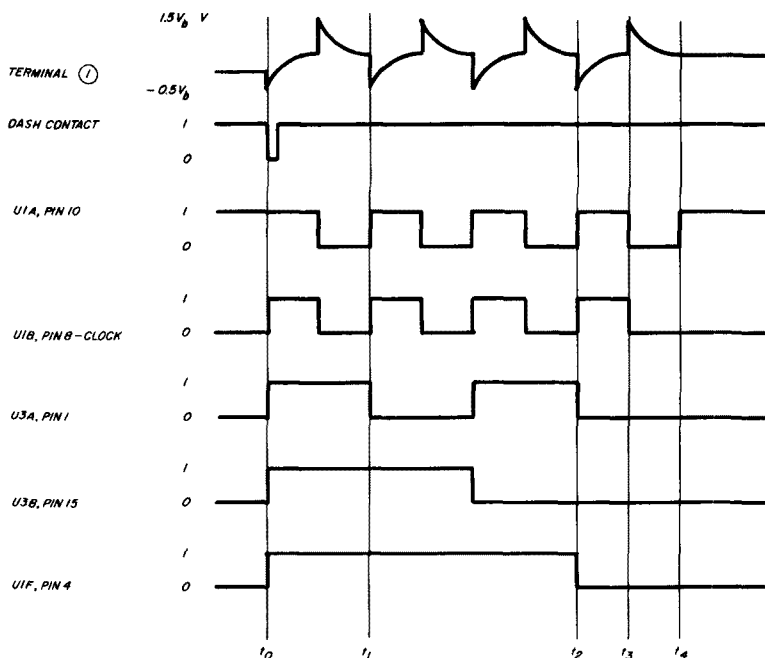
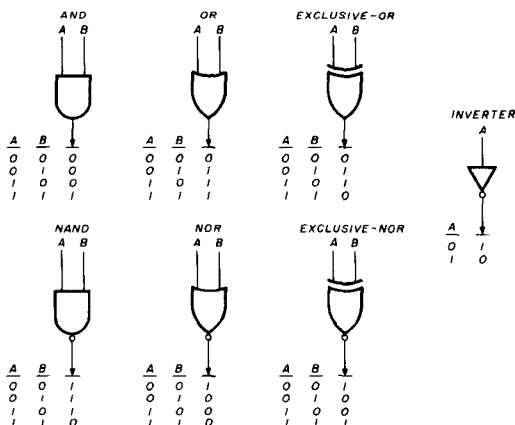
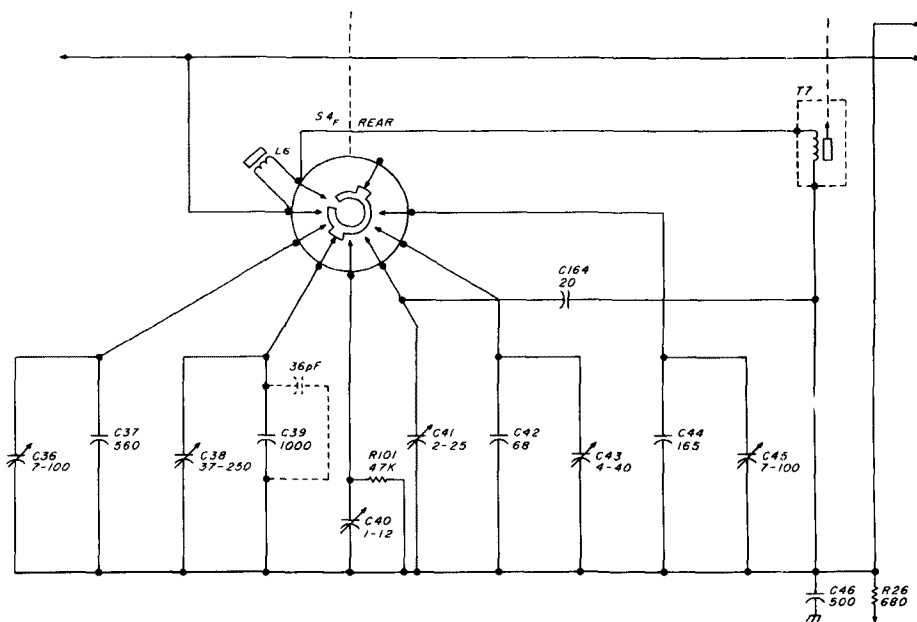

fig. 2. Timing diagram showing the levels within the keyer during the generation of a dash.
fig. 1. Schematic symbols and truth tables for six basic gates, AND, NAND, OR, NOR, Ex-OR, and Ex-NOR, and the inverter.
fig. 3. Changes made to the driver network for low end coverage of 160 meters.
enables the RC oscillator. (Time t_0 on the timing diagram, **fig. 2**).
This is the gate, the fundamental decision maker. Each gate may have any number of inputs, but only one output. The six basic gates are shown in **fig. 1** along with an inverter. The latter has only one input and is used mainly for level inversion.
Compare the truth tables of the AND and NAND, OR and NOR, and the Exclusive gates of **fig. 1**. Each pair, of the three types, will have opposite output states. All six types are needed for design flexibility, but the NAND, NOR and Exclusive-NOR may be confusing.
The uses of NAND and NOR gates may not be apparent, so let's examine some simple gate arrays. The function of the array in **fig. 2** is to provide a high output when the inputs from either A and B or C and D are high. For ease of illustration, C and D are kept low. Intermediate AND output states E and F may not be used but are good for following an array function.
The array in **fig. 3** performs the same function as
fig. 2. Conventional AND/OR gates can be combined to produce the desired outputs. In this example, a 1 output will be present when A and B, or C and D are both 1s.
the one in **fig. 2**, even though all gates are NANDs. The equivalent OR function has bubble inputs, matching the active low NAND outputs. If this is confusing, go back to **fig. 1** and check the state conditions of NAND input versus output. Intermediate states E and F are useful here.
fig. 3. In this example, the AND/OR gates of fig. 2 have been replaced by NANDs and NORs. Even with the change, a 1 will be present at the output for the same input conditions.
fig. 1. The schematic diagram in (A) shows the connections between the switches and audio transformer. T1 is a Cal Electro D1-724, having a 1200-ohm, center-tapped primary with an 8-ohm secondary. The switches can be ordinary miniature double-pole, double-throw switches. The small plastic throw bar is shown in (B). This bar can be shaped to fit any particular pair of headphones.
As shown in fig. 3, the modification to the output network requires